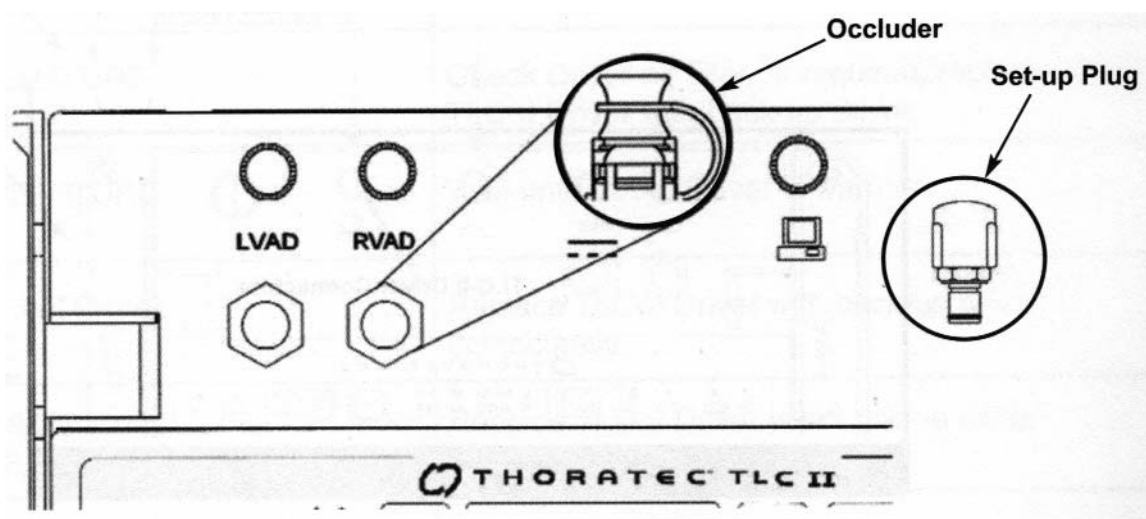
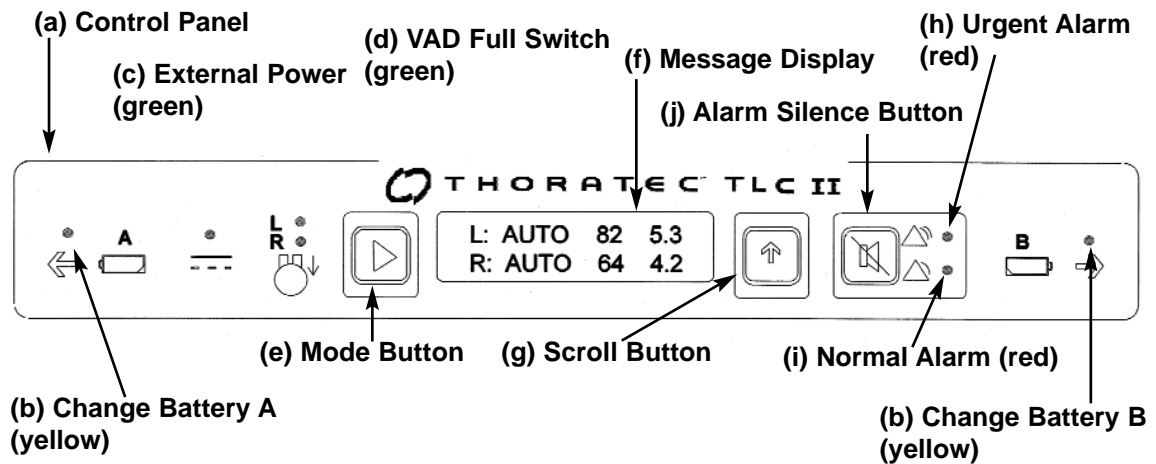

Figure 4.4 TLC-II Driver Top Interface Showing Port Occluder and Set Up Plug
Figure 4.6 TLC-II Control Panel
- 4.2.7 Remove the port occluders and insert set-up plug, if available, into the active VAD port (**Figure 4.4**). These will simulate the appropriate drive pressures and eliminate pressure and vacuum alarms during the set-up procedure.
- 4.2.10** The main TLC-II system now takes over control and displays the timing mode, beat rate and flow for LVAD (top row) and/or RVAD (bottom row) (**Figure 4.6**). When no VAD is connected, or when there is no full signal present, "- - -" is displayed instead of a flow value.
- 4.3.6 Then the main TLC-II system takes over control and displays the timing mode, beat rate and flow for LVAD (top row) and/or RVAD (bottom row) (**Figure 4.6**). When no VAD is connected, or when there is no full signal present, "- -" is displayed instead of a flow value.
- 4.3.7 Since no VADs are connected, several alarms may also become active, including PRESSURE and NO L (or R) FULL SIGNAL. Press the SCROLL BUTTON to view all ALARM MESSAGES. Press the ALARM SILENCE button to silence the audible alarm for 30 seconds (**Figure 4.6**). Use set-up plugs to eliminate pressure and vacuum alarms during set-up (**Figure 4.4**).
4.4.4 Disconnect the LVAD pneumatic lead (color coded red) from the end of the Console/TLC-II Extension Set and connect it immediately to the TLC-II LVAD pneumatic connector (color coded red) (**Figure 4.4**).